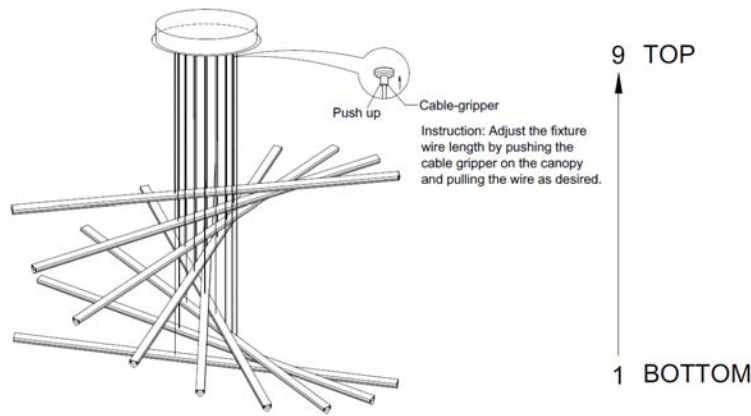

Fig. 5
9. Secure the canopy to the mounting plate using the mounting screw (C).
11. Make additional wires length adjustment to create a desired look (Fig. 5).